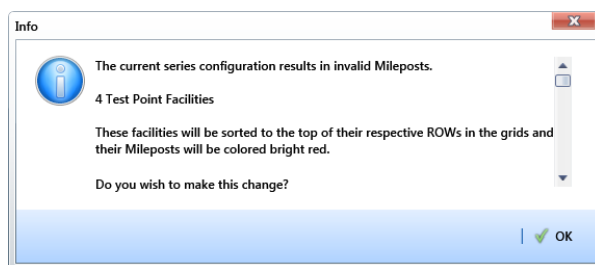

Figure 2-42. Pipeline Series Message
- 10 When a message similar to the following example displays, click  **OK** to apply *Pipeline Series* to effected mileposts (Figure 2-42). Or, click the Windows close button  to cancel the operation and close the message.